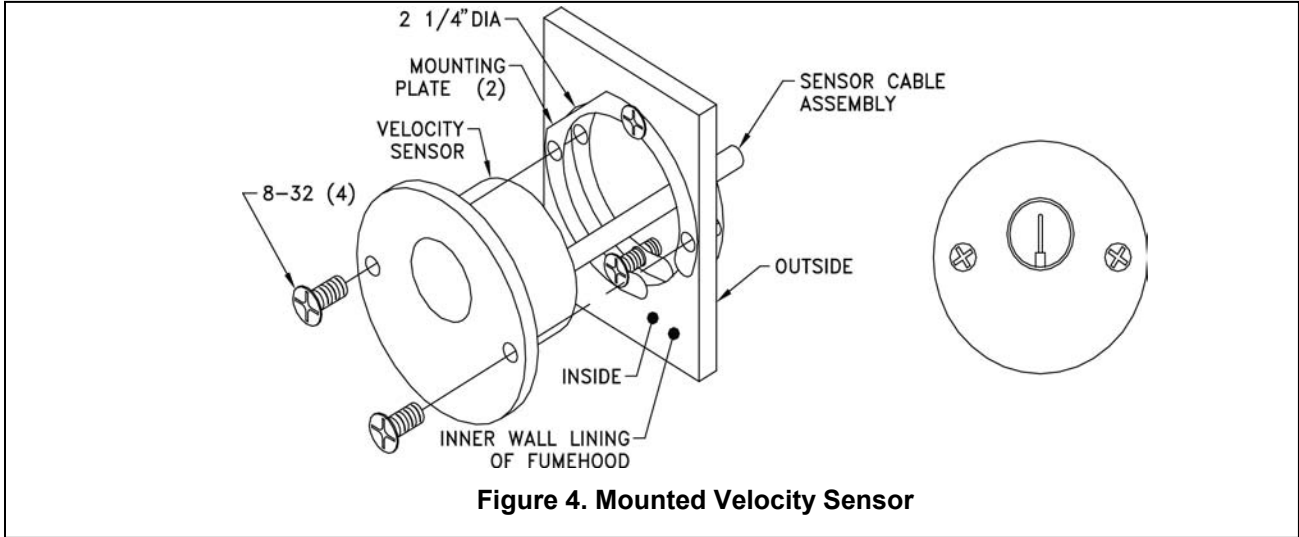

Figure 4. Mounted Velocity Sensor
- Thread the SENSOR CABLE ASSEMBLY through the mounting plates down to the VELOCITY MONITOR electrical rough-in box (Figure 4). The space between the fume hood liner wall and outer sheet metal panel works well as a chase. Leave 8 inches of slack at the VELOCITY MONITOR end (DO NOT CUT SENSOR CABLE LENGTH).
- Mount the VELOCITY SENSOR to the MOUNTING PLATE using the remaining two 8-32 × 5/8 inch screws provided (Figure 4).
- The mounted VELOCITY SENSOR should look like Figure 4.